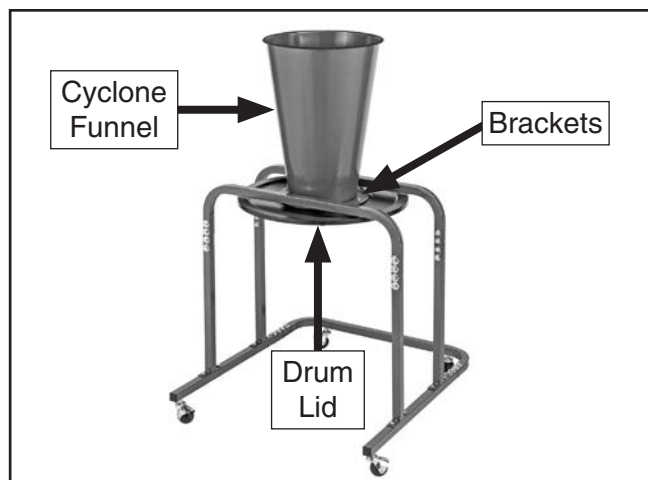

Figure 10. Cyclone funnel and collection drum lid positioned on stand.
12. Align holes in cyclone funnel with holes in collection drum lid and position *under* funnel brackets (see **Figure 10**)